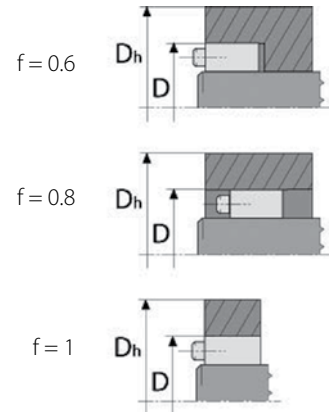

Figure 1
- f = Form factor (see figure 1.)